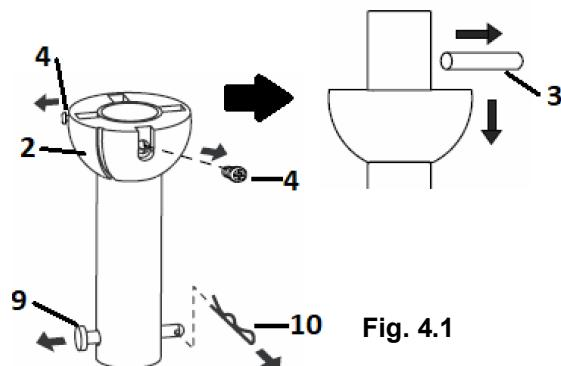

Fig. 4.1
1. Remove the ball joint (2) and dowel pin (3) by loosening the set screws (4) from the down rod (6). Remove the hitch pin (9) by removing the lock clip (10). **NOTE: Do not discard keep these parts, they are required to reassemble later.** (Fig. 4.1)